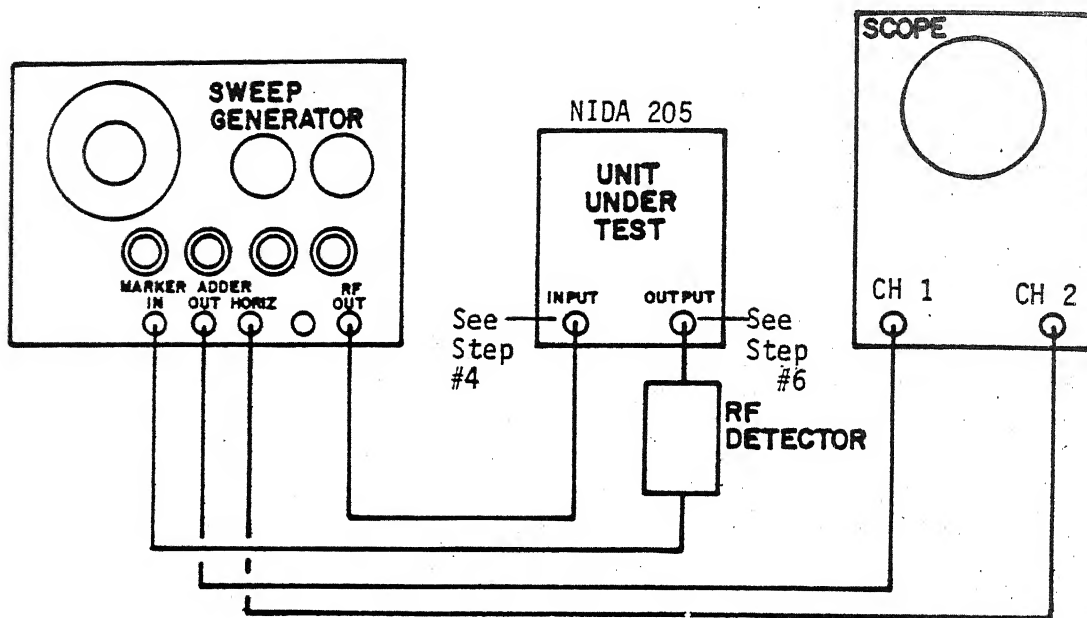

Figure 1
4. Connect the equipment as shown in Figure 1. Connect the RF output from the sweep generator to the IF Input jack on the front panel of the NIDA 205 transceiver.